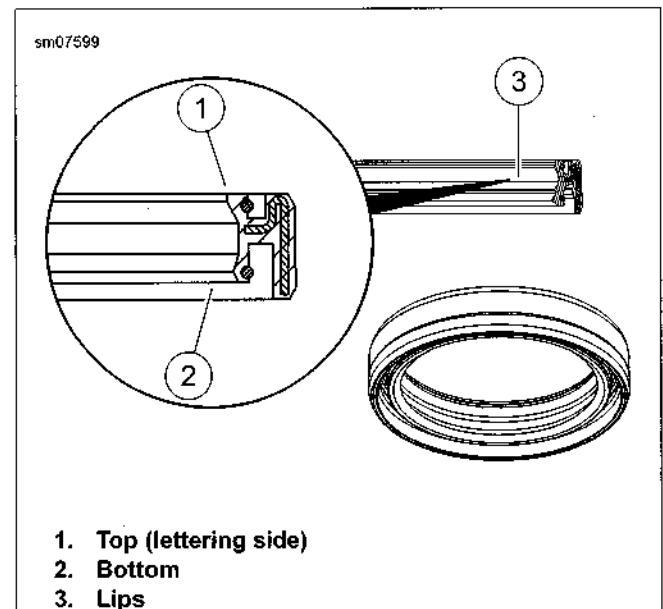

Figure 2-91. Fork Seal
- See Figure 2-91. Coat lips (3) and inner diameter of oil seal with **HARLEY-DAVIDSON SEAL GREASE**.